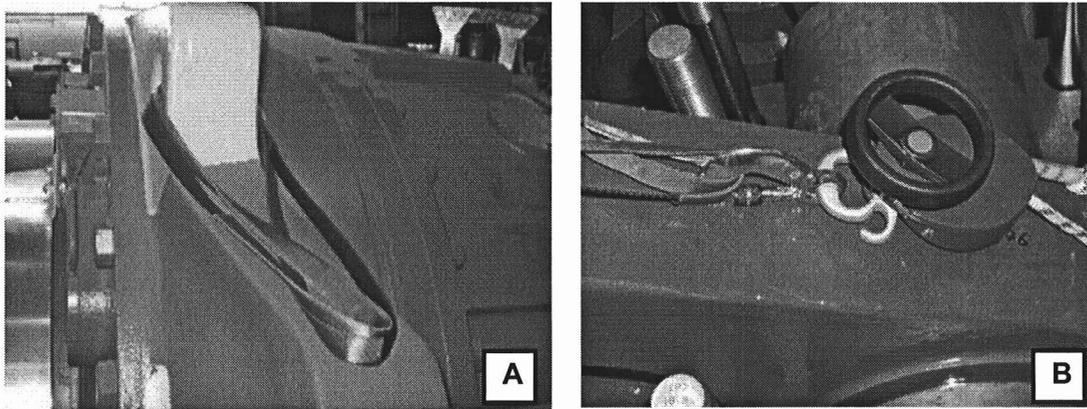

Fig. 30 Fastening the descender for K06
- Pull the webbing sling or work-positioning lanyard through the left lifting lug of the gearbox (looking toward the rotor hub), see Fig.30